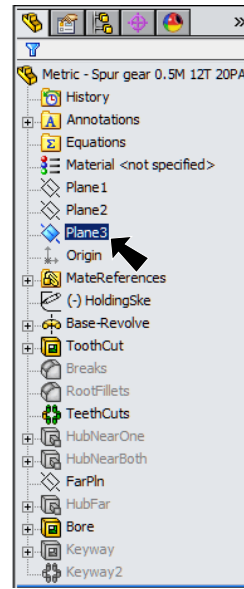

Fig. 4
Step 1. Click **Plane 3**  in the Feature Manager to select Plane, **Fig. 4**.